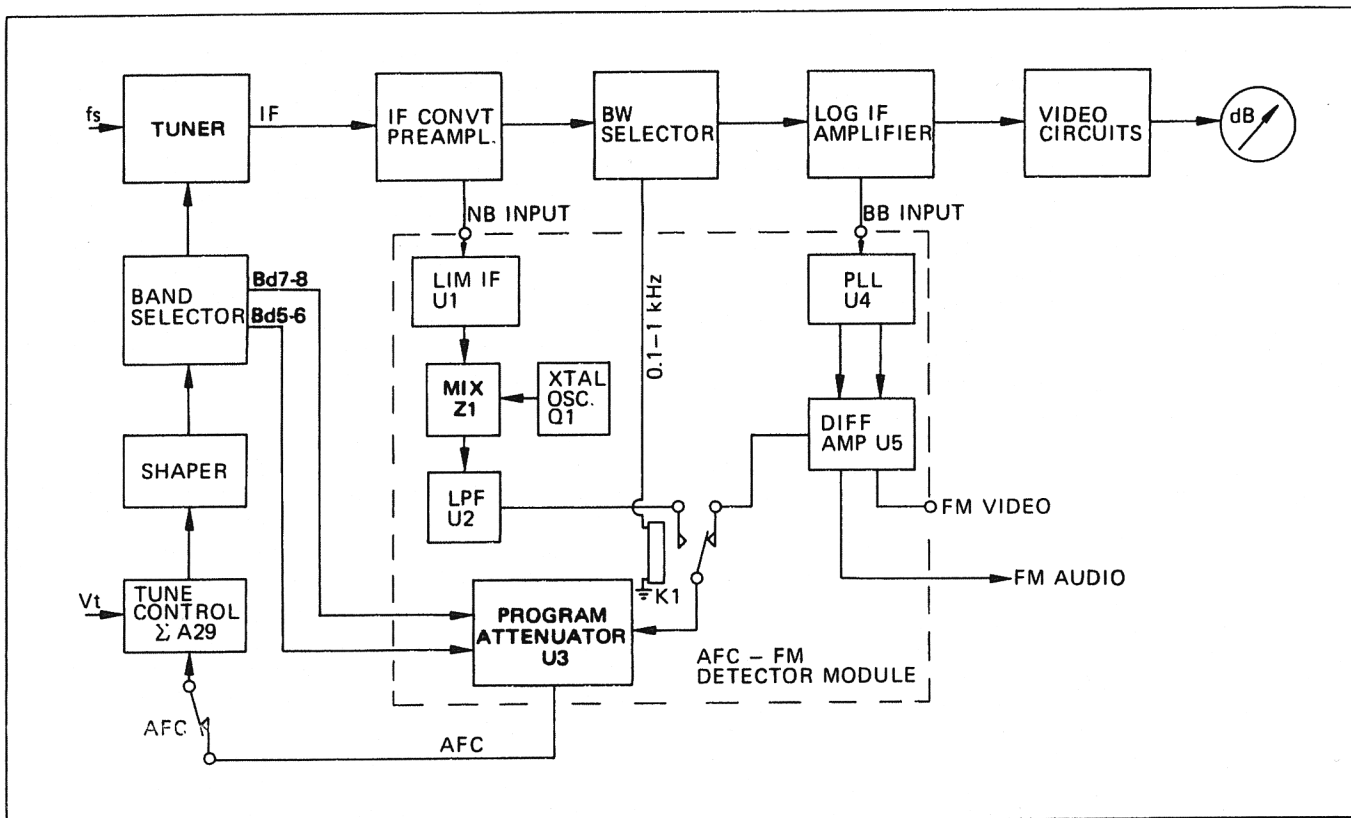

Figure 5-3. Simplified Block Diagram of AFC-FM Detector Circuit
The AFC and FM detector circuit consists of a crystal-controlled phase-locked loop for narrowband automatic frequency control (AFC), a monolithic phase-locked loop broadband AFC and FM detector, a relay operated by the BANDWIDTH (kHz) switch to select the appropriate AFC circuit and a programmed attenuator operated by the BAND (MHz) switch to establish the optimized loop gain for each band; (See Figure 5-3 and 8-16.) The narrow band (NB) AFC circuit is a phase-locked loop using a double balanced mixer, A18Z1, as a phase detector. The reference signal source is a crystal controlled FET oscillator, A18Q1, buffered by an emitter-follower stage, A18Q2, which provides a 50 ohm source impedance to the L port of the balanced mixer, A18Z1. An integrated circuit, A18U1, is used as a limiting IF amplifier for the NB input signal. This is followed by an emitter-follower buffer stage and the signal is then applied to the R port of the balanced mixer, A18Z1. The balanced mixer output is applied to an active filter, A18U2, with cutoff frequencies selected to yield the best loop stability with maximum lock and capture ranges.